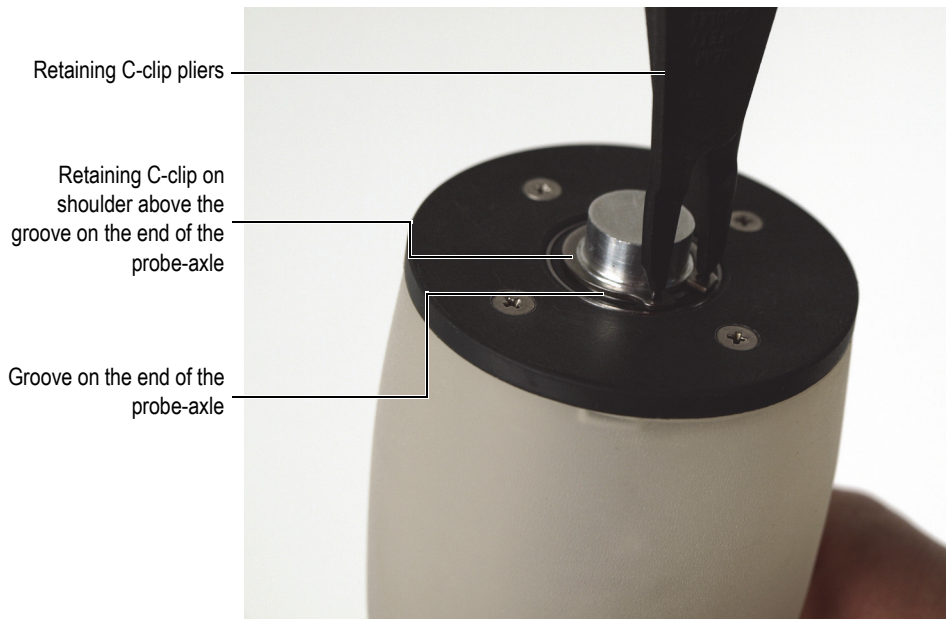

Figure 6-10 Installing the external retaining C-clip on the probe-axle end
2. Holding the acoustic wheel vertically (probe-cable side down), use the supplied retaining C-clip pliers to carefully install the external retaining C-clip on the shoulder above the groove on the end of the probe-axle (Figure 6-10 on page 88).